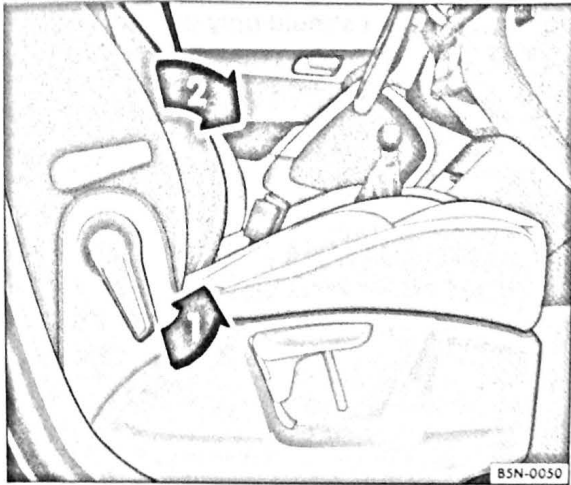

Fig. 55 Folding the front passenger seat backrest forwards
- Release the front passenger backrest in the direction of the arrow ⇒ Fig. 55 ①.
- Fold the front passenger seat backrest forwards in the direction of the arrow ② until it is horizontal.